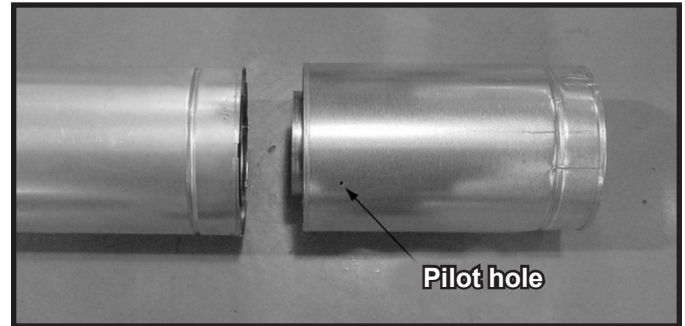

Figure 10.2 Slip Section Pilot Holes
- Slide the inner flue of the slip section into the inner flue of the pipe section and the outer flue of the slip section over the outer flue of the pipe section. See Figure 10.2.